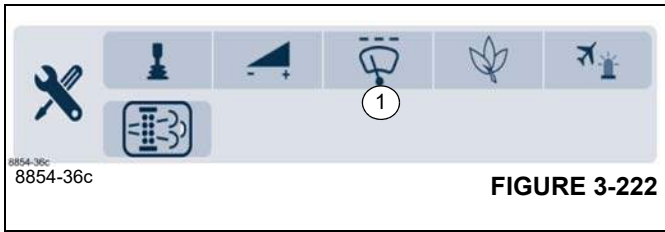

FIGURE 3-222
To open: Select symbol (1), (Figure 3-222) and confirm – menu is opened.